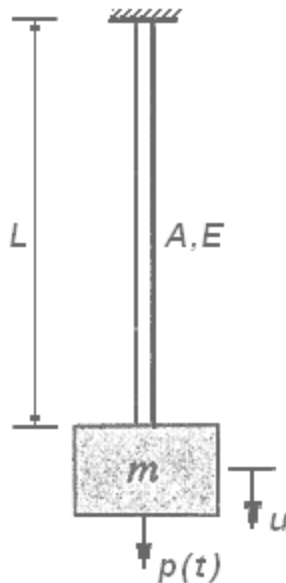

Figure 3:
3. Develop the equation governing the longitudinal motion of the system of Figure 3. The rod is made of an elastic material with elastic modulus E ; its cross sectional area is A and its length is L . Ignore the mass of the rod and measure u from the static equilibrium position. [16]